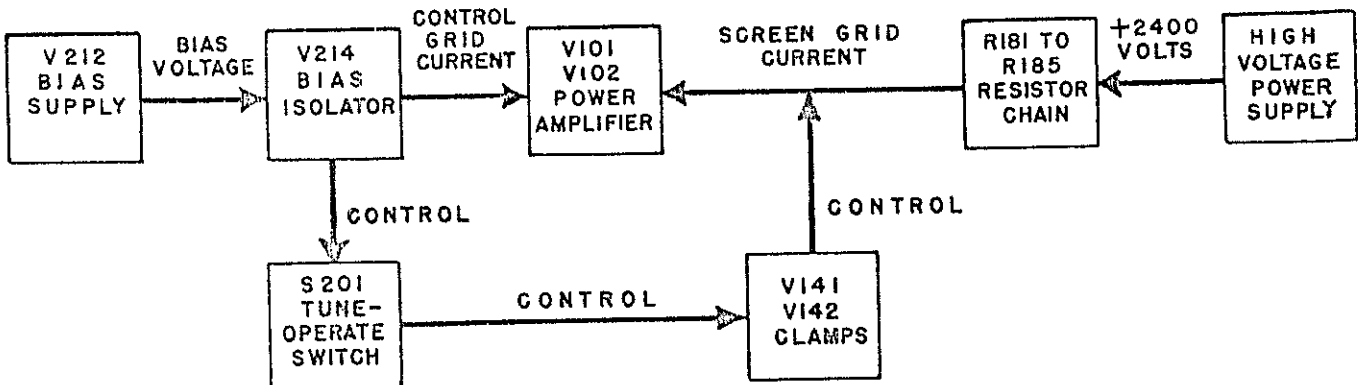
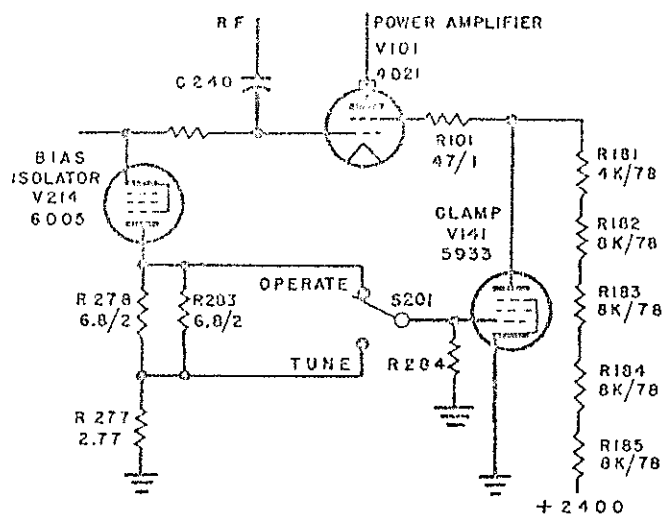

Fig. 2-14 Clamps, Block Diagram
Fig. 2-15 Clamps, Basic Circuit
(2) The principal of operation may be seen from Fig. 2-14 and Fig. 2-15. When the key is up, there is no r-f drive and no power amplifier grid current flows through the bias isolator tube. Since the plate of V214 is near ground potential, the control grids of the clamps V141 and V142 in the power supply are also near ground potential. The low plate resistance of the clamps permits a large current to flow from the high voltage power supply through the resistor chain R181 to R185. The resultant voltage drop across the resistor chain during key-up periods holds the power amplifier screen potential at a safe value of about 50 volts. When the "TUNE-OPERATE" switch S201 is set at "TUNE", the control grids of the clamps are grounded through metering resistor R277 (2.27 ohms); the clamps conduct heavily, independently of the power amplifier control-grid current, and the power amplifier screen-grid voltage remains low. However, when the "TUNE-OPERATE" switch S201 is set at "OPERATE", the control grids of the clamps are connected to the plate of the bias isolator V214. As soon as power amplifier control-grid current starts to flow (key-down conditions), the plate of V214 becomes more negative by the voltage drop across R278, R283. This drives the control grids of the clamps negative, reduces their plate current, and causes the voltage drop across R181 to R185 to decrease. As a result, the screen-grid voltage applied to V101 and V102 rises to a value (about 375 volts) which is determined principally by the screen-grid current and which allows full power output from the amplifier. If the r-f drive fails, V214 returns